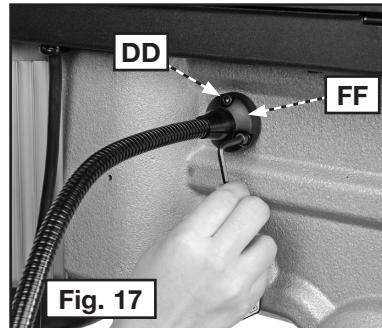

Fig. 17
5. Attach the LED work light (FF) Fig. 17 to the headstock using three screws removed earlier. One is shown at (DD).